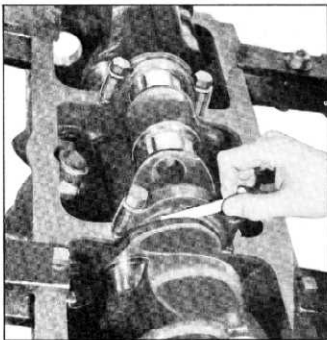

Fig. 51—Checking Crankshaft End Play
4. Check the end play by forcing the crankshaft to its extreme rear position, check at the rear side of the rear intermediate bearing with a feeler gauge (fig. 51). This clearance should be from .003" to .009".